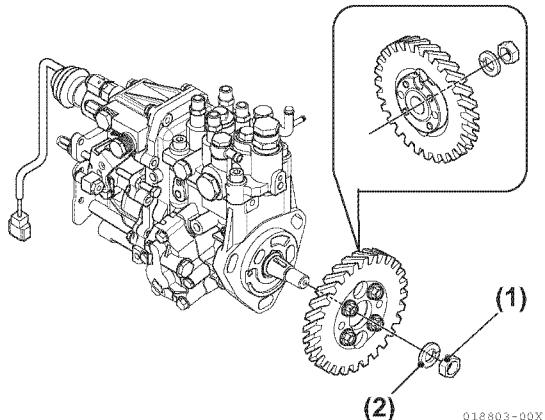

Figure 6-68
- Reinstall the fuel injection pump drive gear lock washer (**Figure 6-68, (2)**) and nut (**Figure 6-68, (1)**). Do not lubricate the threads of the nut or shaft. Hold the crankshaft pulley bolt with a socket wrench and tighten the drive gear nut to the specified torque. See *Special Torque Chart* on page 6-43.